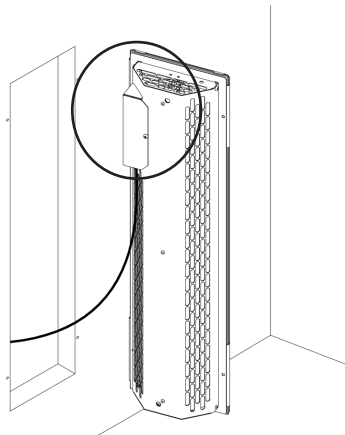
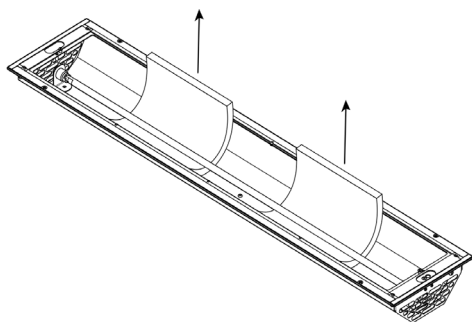

Fig. 2: Terminal box at top
Fig. 5: Removing the transport restraint
- To ensure that the thermal fuse functions correctly, the terminal box for the radiator must be at the top when the radiator is installed vertically (e.g. back heater) (see **Fig. 2**).
Please note **Fig. 2** and **Fig. 5**.